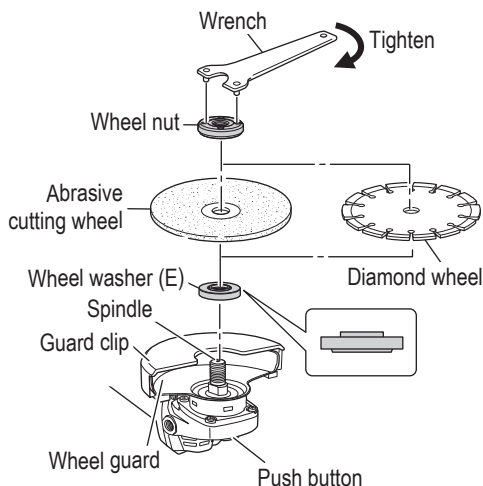

Fig. 19
- (5) While pushing the push button with one hand, lock the spindle by turning the abrasive cut-off / diamond wheel slowly with the other hand. Tighten the wheel nut by using the supplied wrench as shown in Fig. 19.